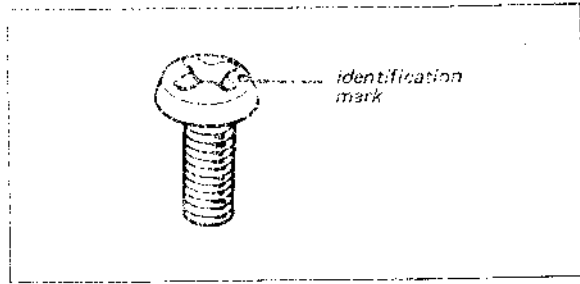

Fig. 2-1. ISO screw
**Note:** All screws in the TC-119A are manufactured to the specifications of the International Organization for Standardization (ISO). This means that the new and old screws are not interchangeable because ISO screws have a different number of threads per mm compared to the old ones. The ISO screws have an identification mark on their heads as shown in Fig. 2-1.